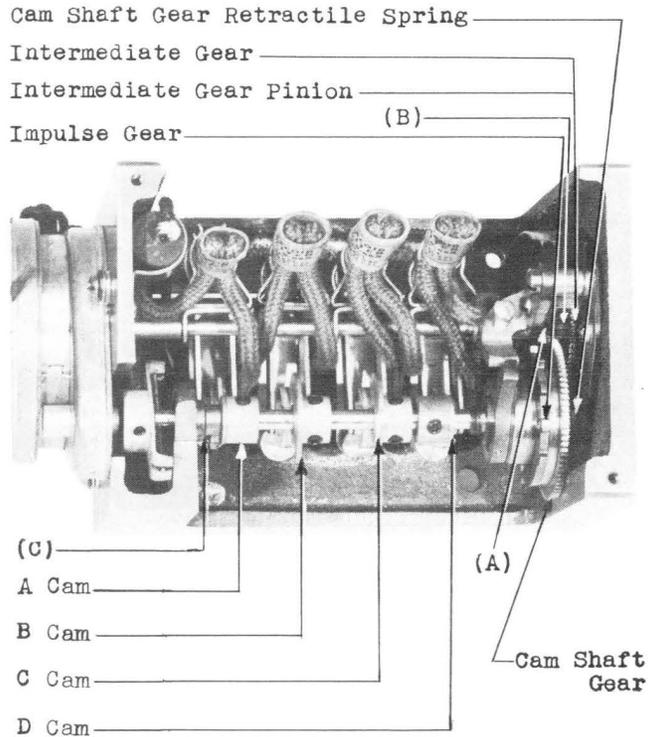

Fig. 3 - Cam Arrangement
Intermediate Gear Bearings	- Fig. 3 (A)
Intermediate Gear Pinion	- Fig. 3 (B)
- (a) Fig. 3 (C): The cam shaft shall have perceptible end play. Gauge by eye and feel.